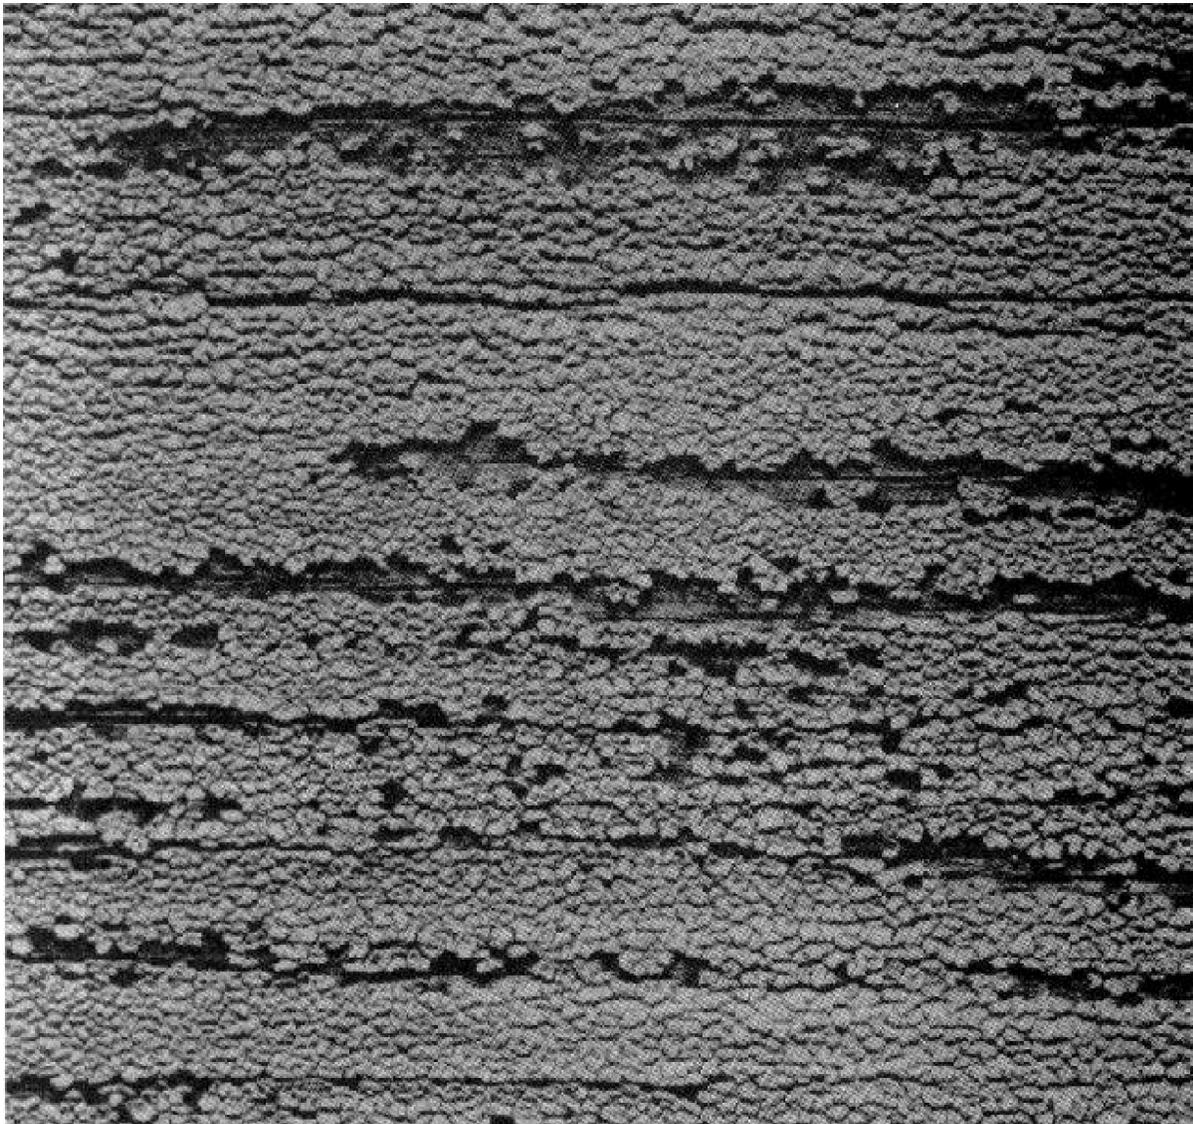

FIGURE 5-10
b. Crumbling: If the cracks are relatively small, the moisture penetrating through the coating will cause small pieces of the coating to lose adhesion and fall off the substrate. (See Figure 5-10).